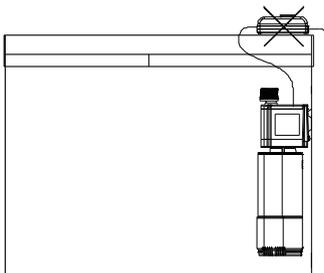

Fig.1
3. Look at the picture on the box of the UV assembly for reference. Attach the UV Lamp Assembly to the aquarium. Control box placed outside the tank. (Fig.1)